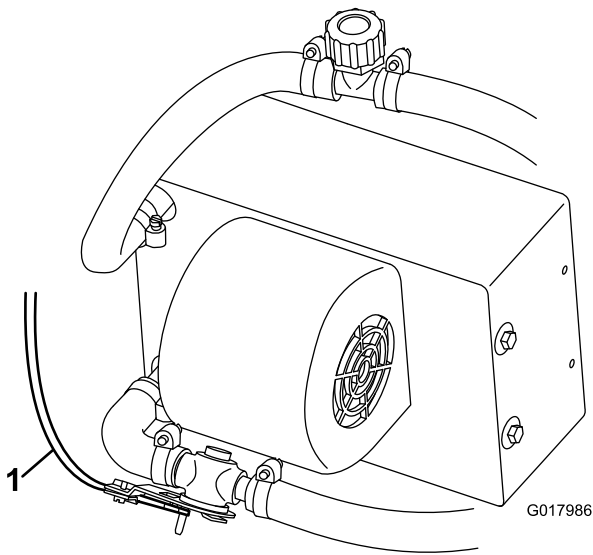

Figure 6
8. Route and connect the heater control cable to the heater valve (Figure 6).